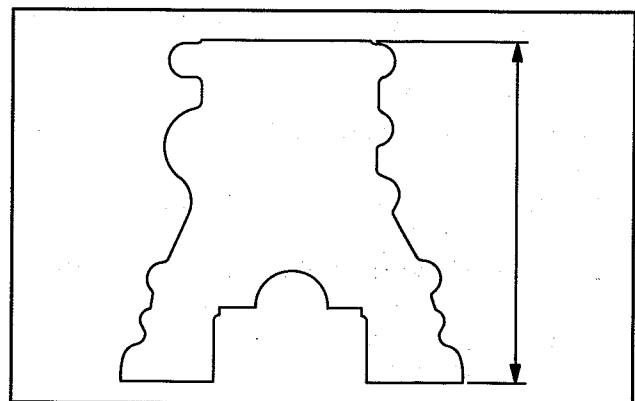

Fig. 2 - Cylinder Block Height
2. If cylinder block exceeds limit shown, it may be resurfaced, Fig. 2.